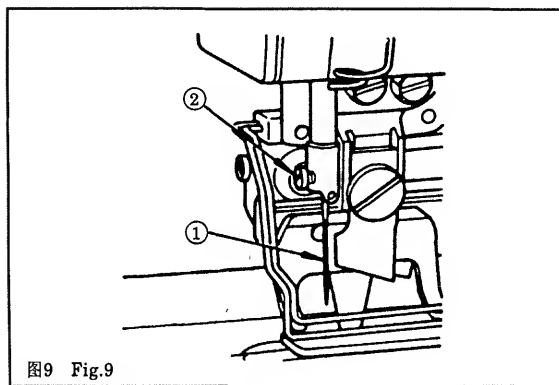

图9 Fig.9
2) Apply two or three drops of lubricating oil only to ④ point when the machine is newly set up or has been out of use for a long time.
7. 机针的安装方法 图9
7. HOW TO INSTALL THE NEEDLE Fig.9